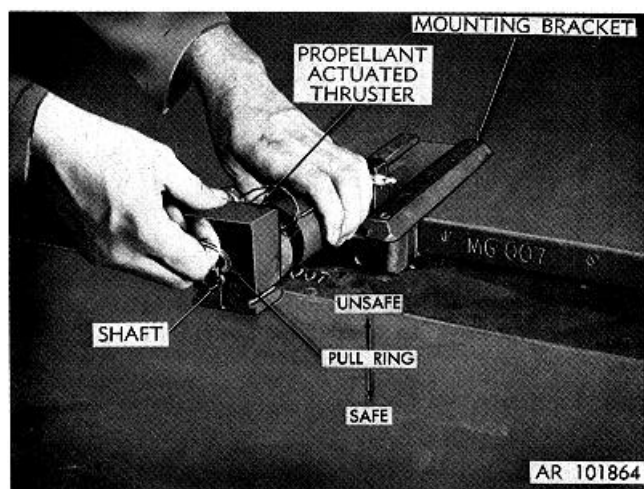
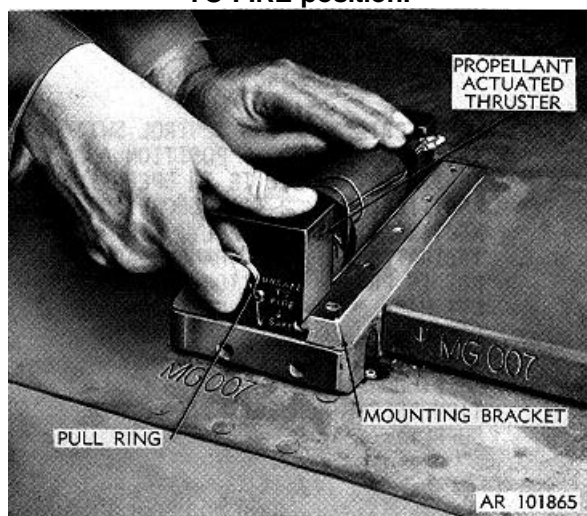

Figure 2-34. Pulling pull ring toward the UNSAFE TO FIRE position.
Figure 2-35. Seating thruster in mounting bracket.
**MAKE CERTAIN SPRING-LOADED PLUNGER IS FULLY SEATED IN ITS HOLE IN BRACKET. THIS IS INDICATED BY THE POSITION OF SHAFT TO WHICH PULL RING IS CONNECTED. SHAFT MUST BE POSITIONED IN AREA MARKED, "SAFE", ON REAR BLOCK OF THRUSTER (FIG. 2-34).**
Mount thruster in mounting bracket atop cover with pull ring end toward rear of kit. Pull ring must be pulled toward UNSAFE TO FIRE position before thruster can slide into bracket (fig. 2-34). When thruster is fully within bracket, release pull ring and slide thruster back and forth slightly until spring-loaded plunger attached to pull ring seats in hole in mounting bracket. This locks the thruster firmly in position (fig. 2-35).